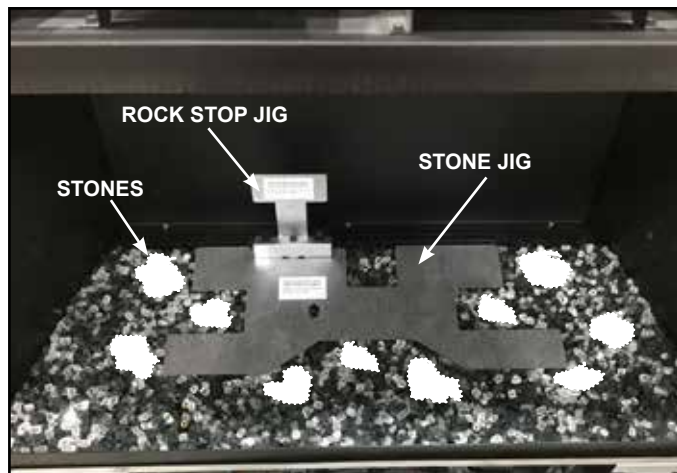

Figure 9.7 Stone Jig in Place with Stones
1. Place stone jig on glass media with “STONE JIG” facing up. Ensure that the stone jig sits flush against the rock stop jig. See Figure 9.7.